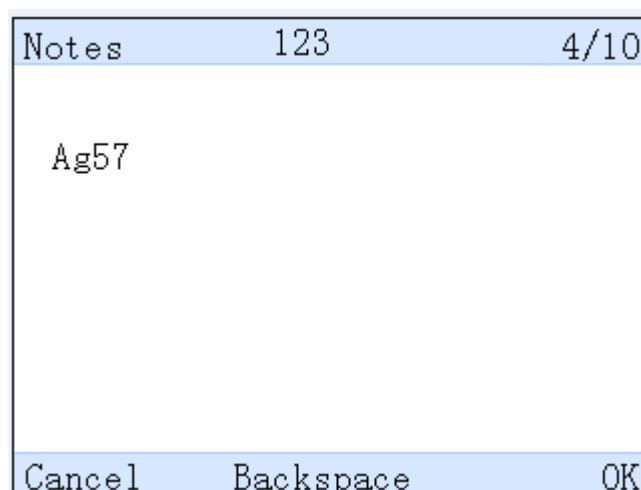

Figure 5-8 Numbers input
(2) Numbers input
Press “#” to change into numbers input method (123), input numbers as Figure 5-8.